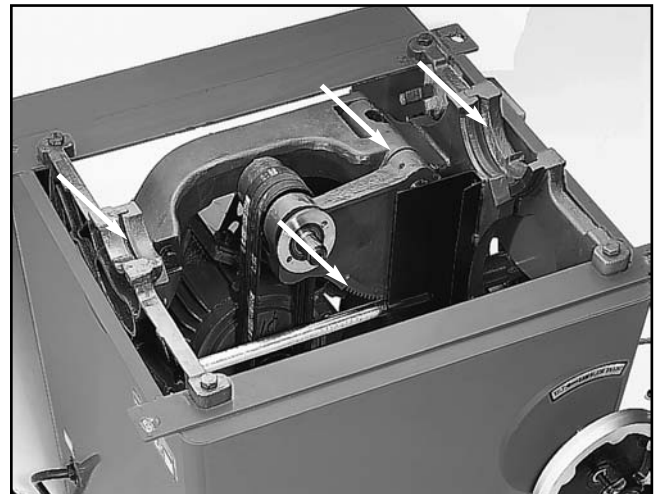

Figure 43. Lubricate these areas.
3. **The two (2) worm gears** should be lubricated with an automotive wheel bearing grease. The blade angle worm gear is not shown in **Figure 43**.